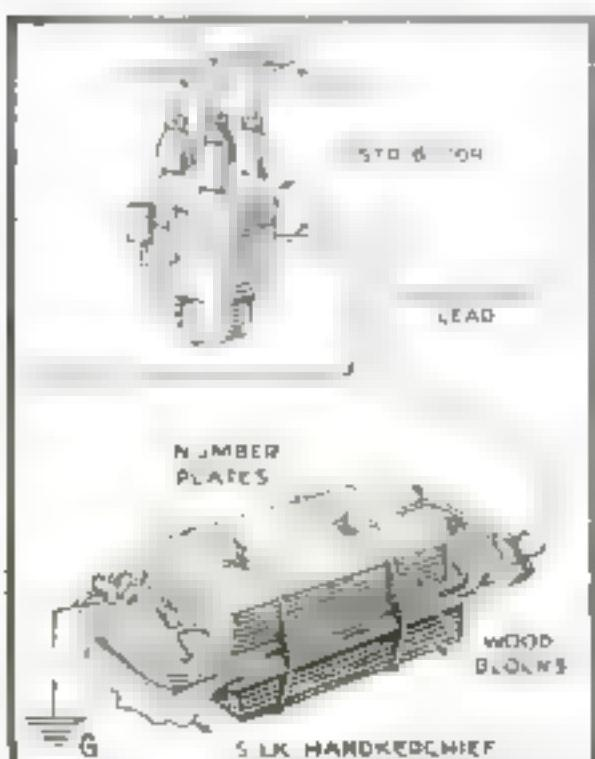

Fig. 1. License plates tied with handkerchief between serve as emergency condenser.
**L**AYERS of tin foil spaced by specially prepared paper constitute the condenser connected across the breaker points of the automobile ignition system. Assuming that the condenser goes bad when you are far from a service station, it is possible to work out a last resort emergency repair as shown in Fig. 1. Remove the tail-light wire, the number plates, and your shoe strings. Place the number plates with a single layer of your handkerchief between, making sure that the handkerchief cloth extends at all edges. Tie the plates together with a couple of pieces of board, if available, and connect as shown.
This month we award a \$10 prize to O. N. Giem, Carmel, Calif., for his plan for making a temporary repair of a condenser (see Fig. 1). Contributions are requested from auto mechanics, and if printed will be paid for at usual rates.